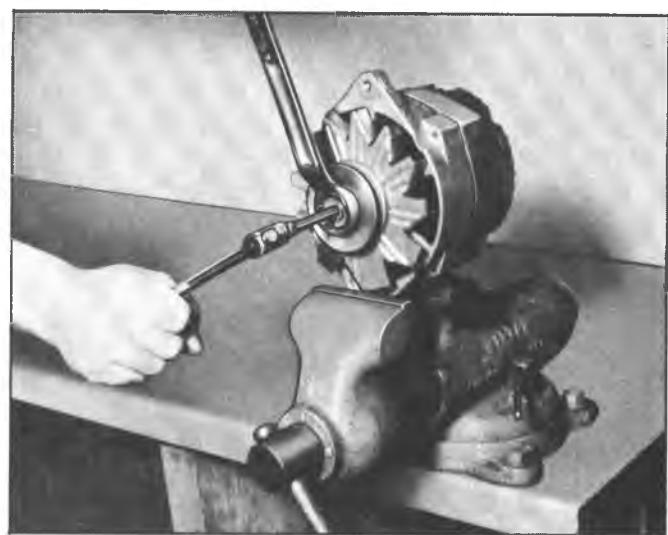

Fig. 2C-Removing Pulley
- Single groove pulley--place 15/16" box wrench on the shaft nut and insert a 5/16" allen wrench into the shaft end hole to hold the shaft while removing the nut (fig. 2C).